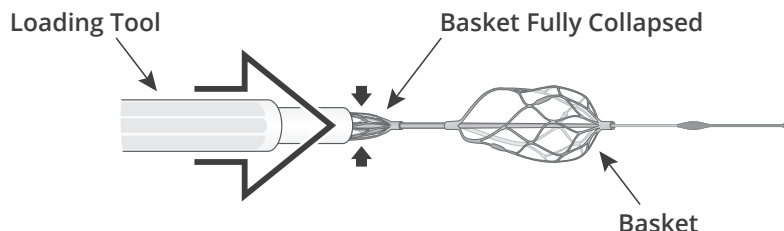

Figure 3
3. Retrieve the basket wire from its protective hoop within the tray. Advance the preloaded basket loading tool over the baskets, to completely collapse and constrain both the baskets (see Figure 3).